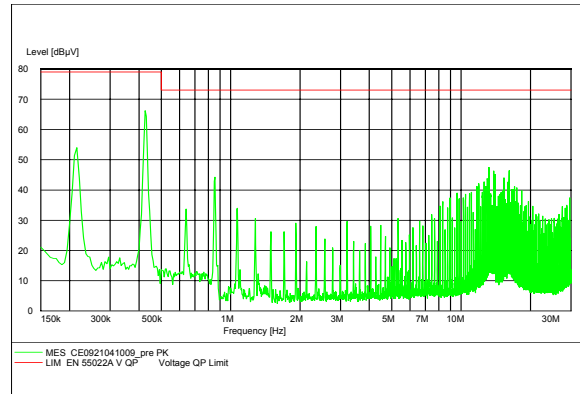

**Figure 43.  $T_{ref}$  Temperature Measurement Locations.**
To provide protection under certain fault conditions, the unit is equipped with a thermal shutdown circuit. The unit will shutdown if the thermal reference point  $T_{ref}$  (Figure 43), exceeds 125 $^{\circ}$ C (typical), but the thermal shutdown is not intended as a guarantee that the unit will survive temperatures beyond its rating. The module can be restarted by cycling the dc input power for at least one second or by toggling the remote on/off signal for at least one second. If the auto-restart option (4) is ordered, the module will automatically restart upon cool-down to a safe temperature.
The thermal reference point,  $T_{ref}$  used in the specifications is shown in Figure 43. For reliable operation this temperature should not exceed 120°C.